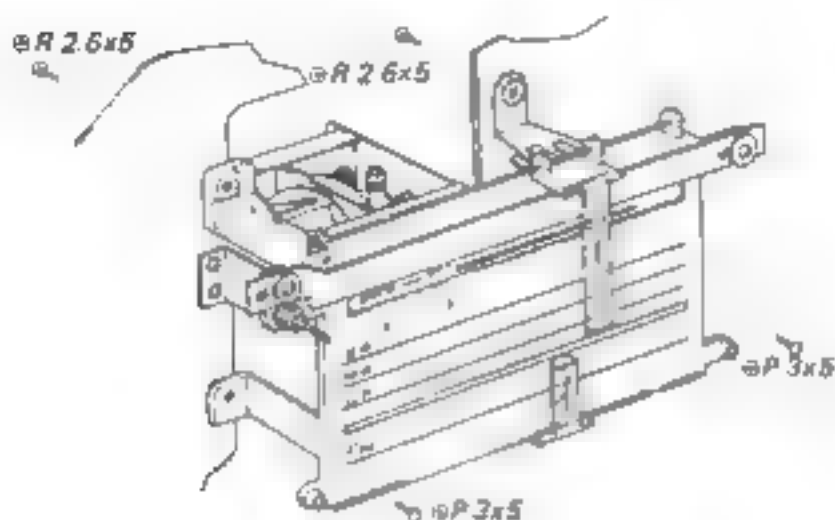

Fig. 2-17
2. Remove the four screws shown in Fig. 2-17 and take out the dial scale.